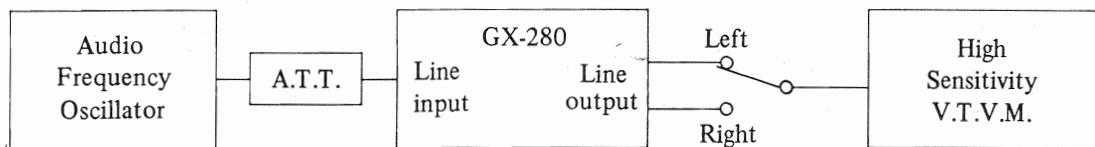

Fig. 20
2. RECORDING LEVEL ADJUSTMENT (See Figs. 20, 21 & 22)